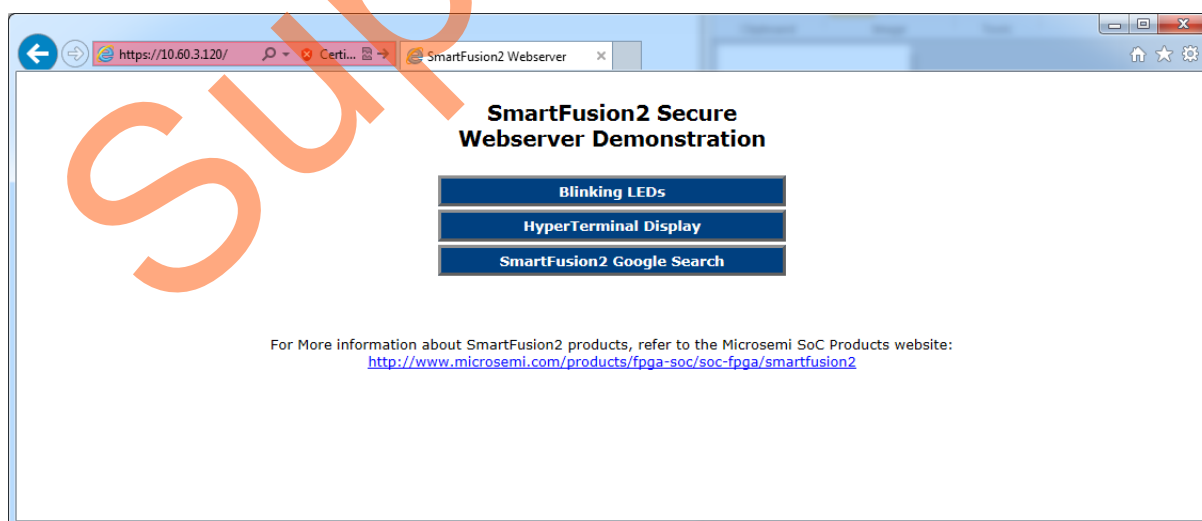

Figure 14 • Main Menu of Secure Webserver in Internet Explorer
2. Click **Continue to this website (not recommended)** to start secure communication with the Webserver. The Microsoft Internet Explorer displays the main menu of the Secure Webserver as shown in Figure 14.